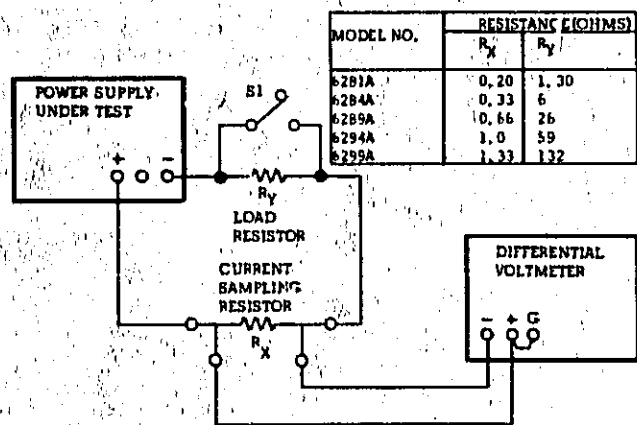

Figure 5-4. Output Current Test Setup
- Connect test setup shown in Figure 5-4 leaving switch S1 open.
- Connect test setup as shown in Figure 5-4.
a. Utilize test setup shown in Figure 5-4 leaving switch S1 open throughout test.
a. Use test setup shown in Figure 5-4, except connect AC voltmeter across sampling resistor instead of differential voltmeter.